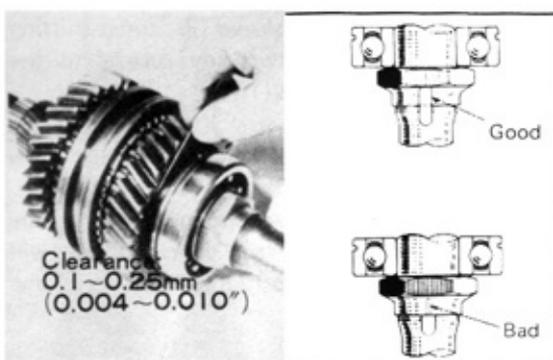

Fig. 2-52 Thrust Clearance Measurement and Nut Peening
- (13) Peen the nut to the output shaft as shown in Fig. 2-52.